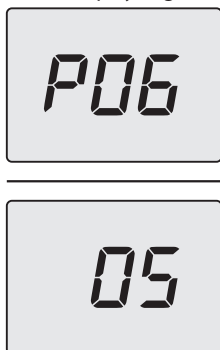

Figure 5.33
- Scroll through the various parameters by pressing the keys 12 (back) or 14 (forward), until **P06**, which alternates with the parameter value, appears on the LCD display (Figure 5.33).